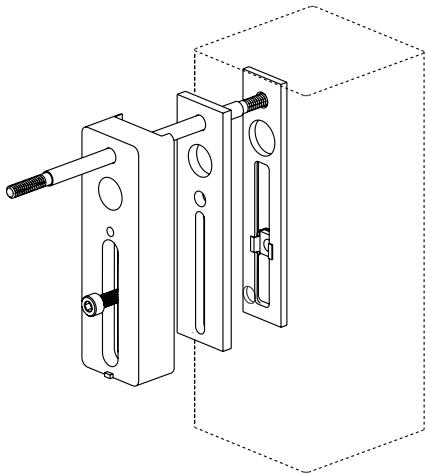

Fig. G-2
3. Take the shorter 204mm bolt and pass it through the arm mount body and thread it into the brace inside the pole. Slide the arm mount body cover into place over the threaded rods, align notch to prevent movement. (Fig. G-2)